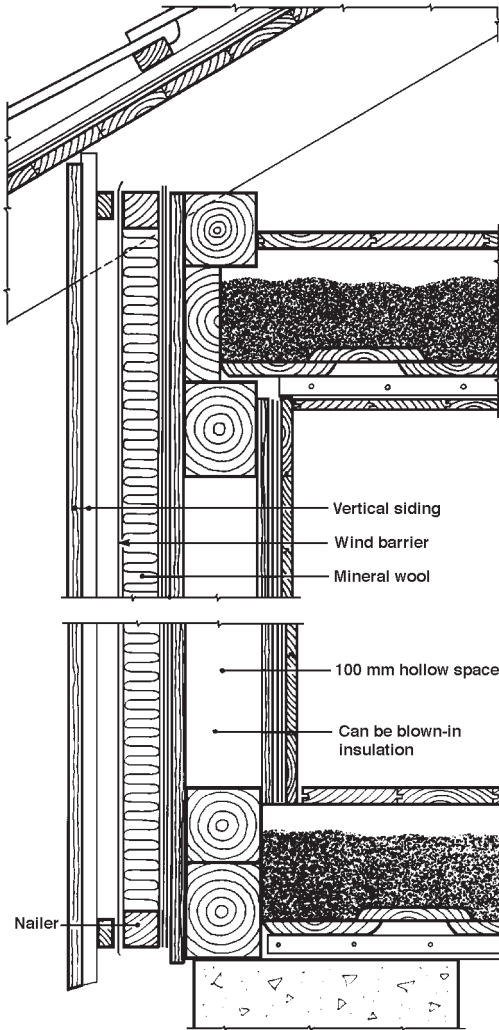

Figure 34a. Externally installed insulation in an older frame wall (bindingsverk) with hollow spaces
**34 Timber framework (Bindingsverk, see Figure 34a)**
For external insulation of older masonry framework, consider blowing in mineral wool. See Point 52. In older types of wood-reinforced construction it may be advantageous to remove the outer paneling to get a smoother surface and a better seal at the top and bottom of the wall. Bearing beams can be installed horizontally (center to center 900 mm (3 ft) or 600 mm (2 ft)) or vertically (center to center 600m (2 ft)), depending upon whether the external covering will be horizontal or vertical. After insulation, install a cardboard cover with compressed joints or wind-proof boards. Ensure that cold air cannot penetrate behind the insulation. The seal between the upper and lower nailer and the old covering is especially important (Figure 34A).